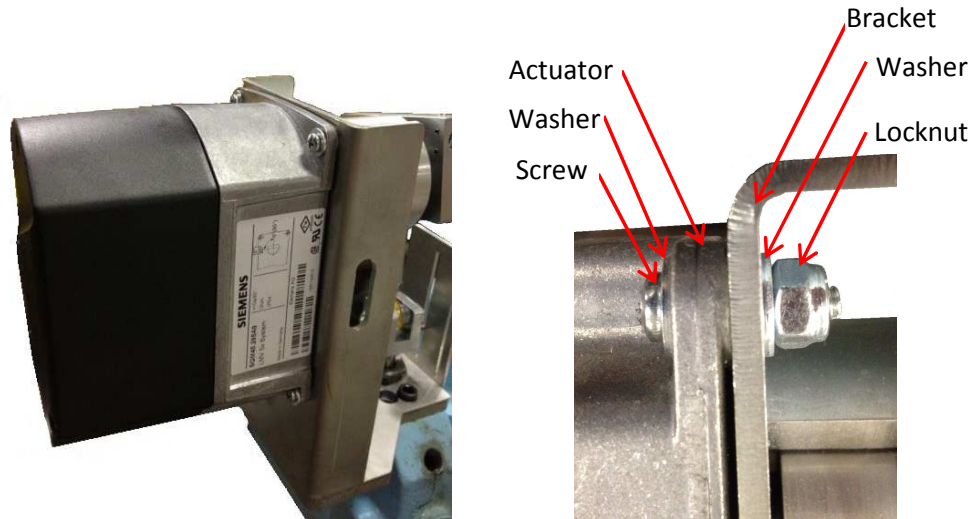

Figure 12: Actuator Mounted to Bracket
10. Mount the SQM... actuator to the bracket assembly using the four #8-32 x 0.75" pan head screws, the eight #8 SAE washers, and the four #8-32 locknuts. Figure 12 shows the assembly after this step.